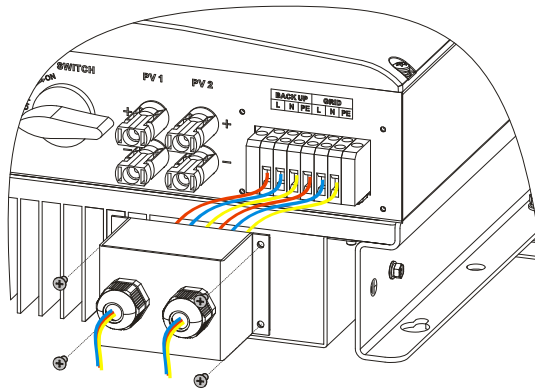

Figure4-5 AC output wiring
- Step 4 Prepare wires and strip the insulation layer of wires for about 7mm. Loosen the nylon cable gland in the AC cover and draw the wires through it, crimp the terminals and lock them on the inverter, as shown in Figure4-5.